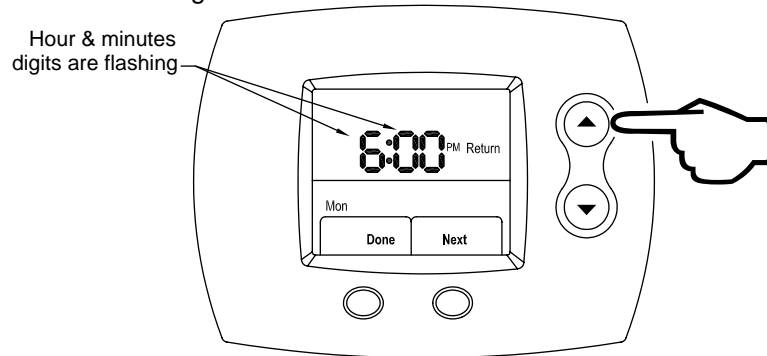

Figure 133
Step 16: Press the **UP** (increase time by 15 minutes) or **DOWN** (decrease time by 15 minutes) buttons to edit the time the Return period start time. The time increments in 15-minute intervals just as it did for the Wake period. This is shown in Figure 133.